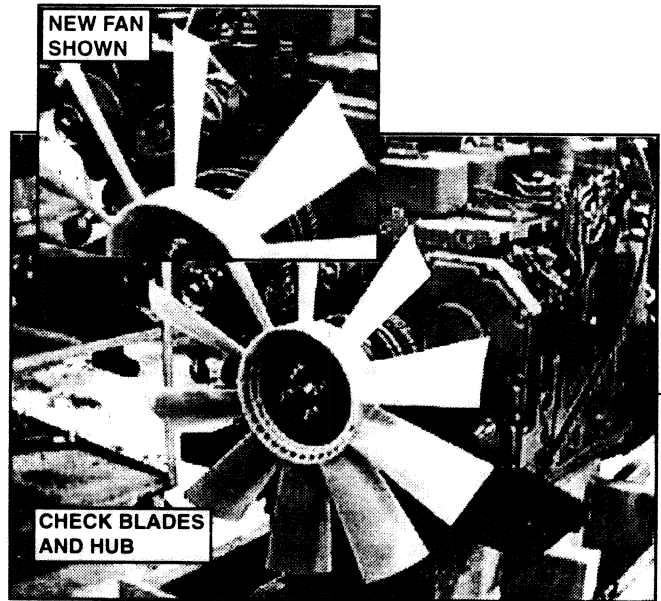

FIGURE 4.73
1. Inspect all fan blades and hub for damage. Also check torque of fan mounting bolts. Proper torque value is 6kgf/m (43 ft lbs). See Figure 4.73.